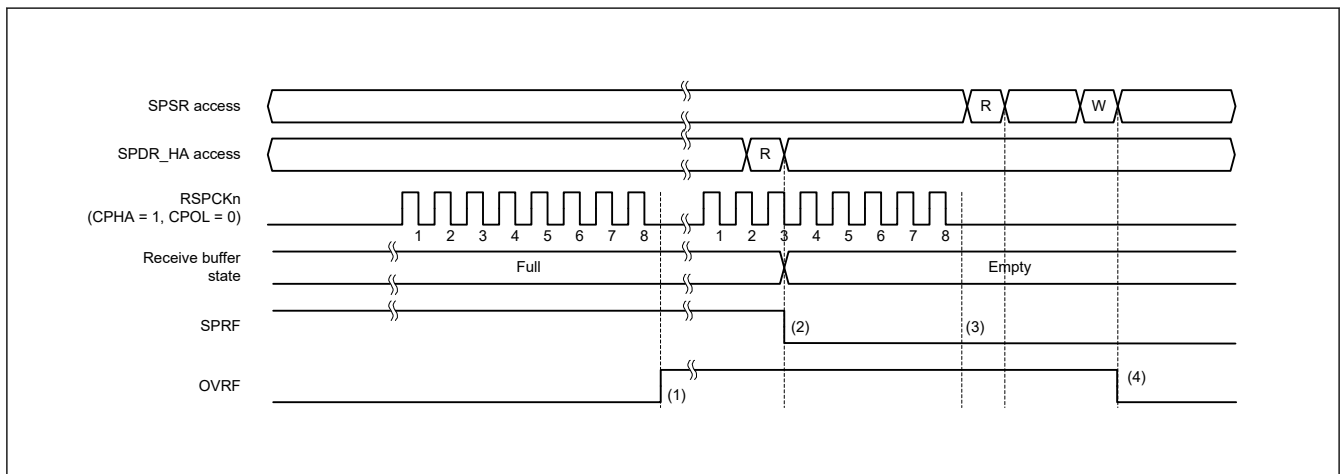

Figure 27.28 Operation example of the OVRF and SPRF flags
Figure 27.28 shows an example of operation of the OVRF and SPRF flags. The SPSR and SPDR_HA accesses shown in Figure 27.28 indicate the condition of accesses to the SPSR and SPDR_HA register, where W denotes a write cycle, and R a read cycle. In this example, the SPI performs an 8-bit serial transfer when SPCMD0.CPHA bit is 1 and the SPCMD0.CPOL bit is 0. The numbers given for RSPCK_n in the waveform represent the number of RSPCK cycles, such as the number of transferred bits.
The operation of the flags at timings (1) to (4) in Figure 27.28 is as follows: